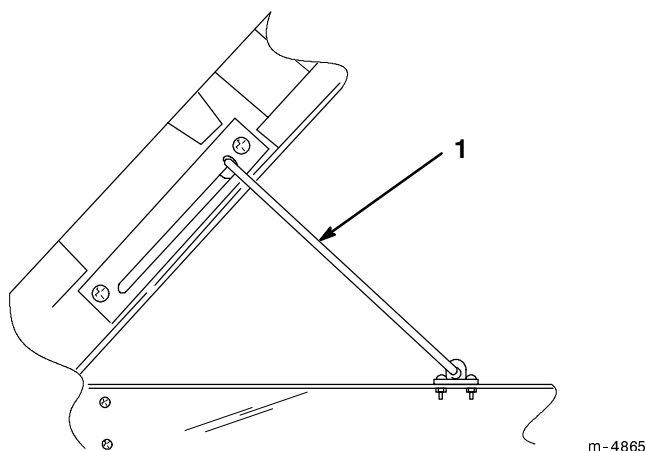

Figure 18
3. Pull up on prop rod to lock in place (Fig. 18).